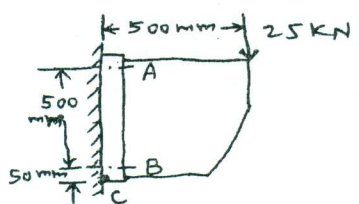

Fig.Q4(b)
- b. A wall bracket is attached to the wall by means of four identical bolts, two at A and two at B, as shown in Fig.Q4(b). Assuming that the bracket is held against the wall and prevented from tipping about the point C by all four bolts and using an allowable tensile stress in the bolts as 35 N/mm^2 , determine the size of the bolts on the basis of maximum principal stress theory. (08 Marks)